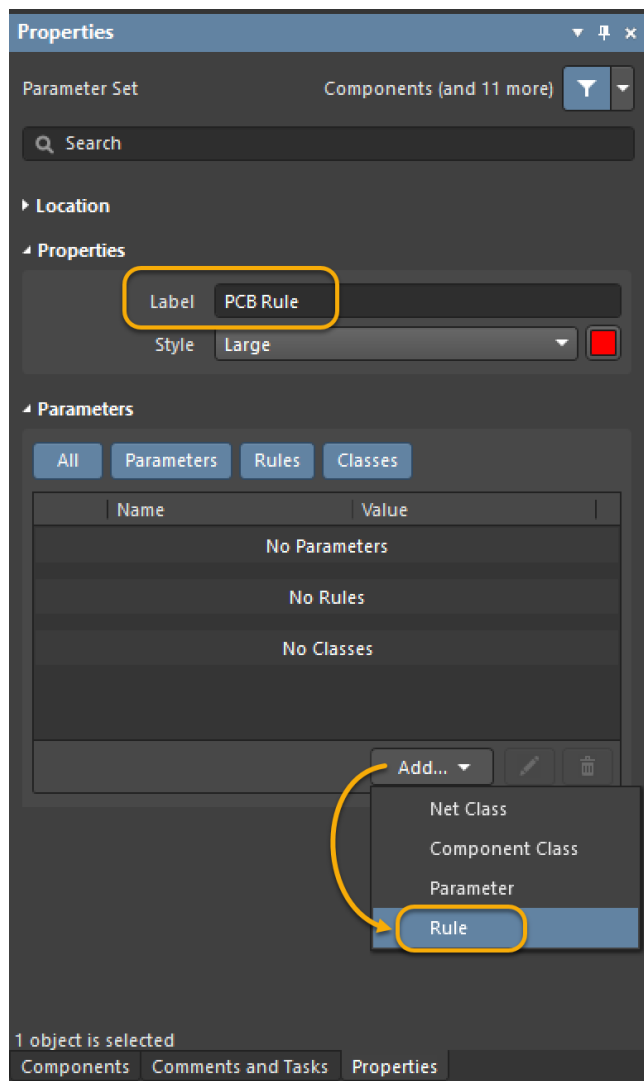

Figure 7. Adding PCB rule directive from the schematic
- c) Under the *Parameters* pane, click **Add... » Rule**, as shown in Figure 7.